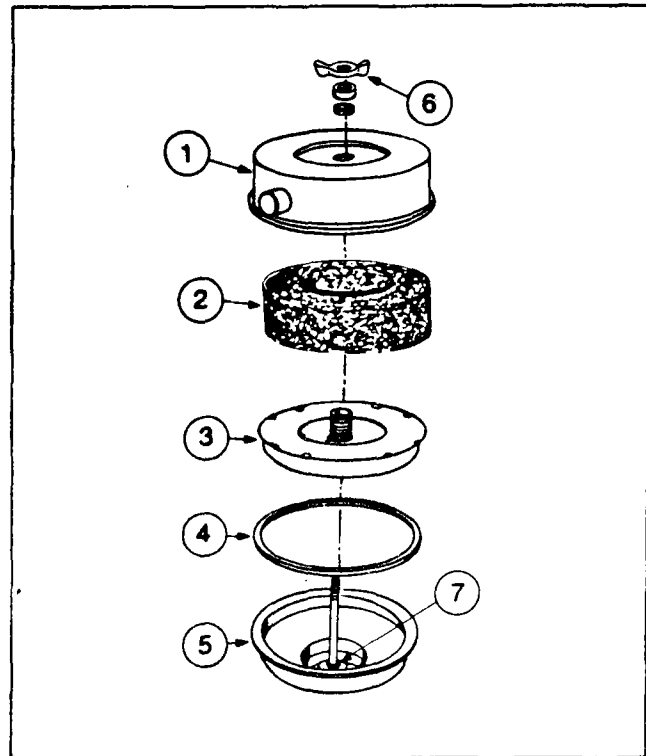

Fig. 2-24, (V51909). Crankcase breather — mesh element with vapor barrier
1. Remove the wing nut (6, Fig. 2-24), flatwasher and rubber washer securing the cover (1), to the breather body (5).
2. Lift off the cover and life out the breather element (2), vapor element (3), and gasket (4).
5. Install a cleaned or new breather element (2, Fig. 2-24) and cleaned vapor element (3) to the breather body (5).
6. Install the rubber gasket (4) in the cover (1); position the cover assembly to the body (5).
7. Install the rubber washer, flatwasher and wing nut (6); tighten securely.